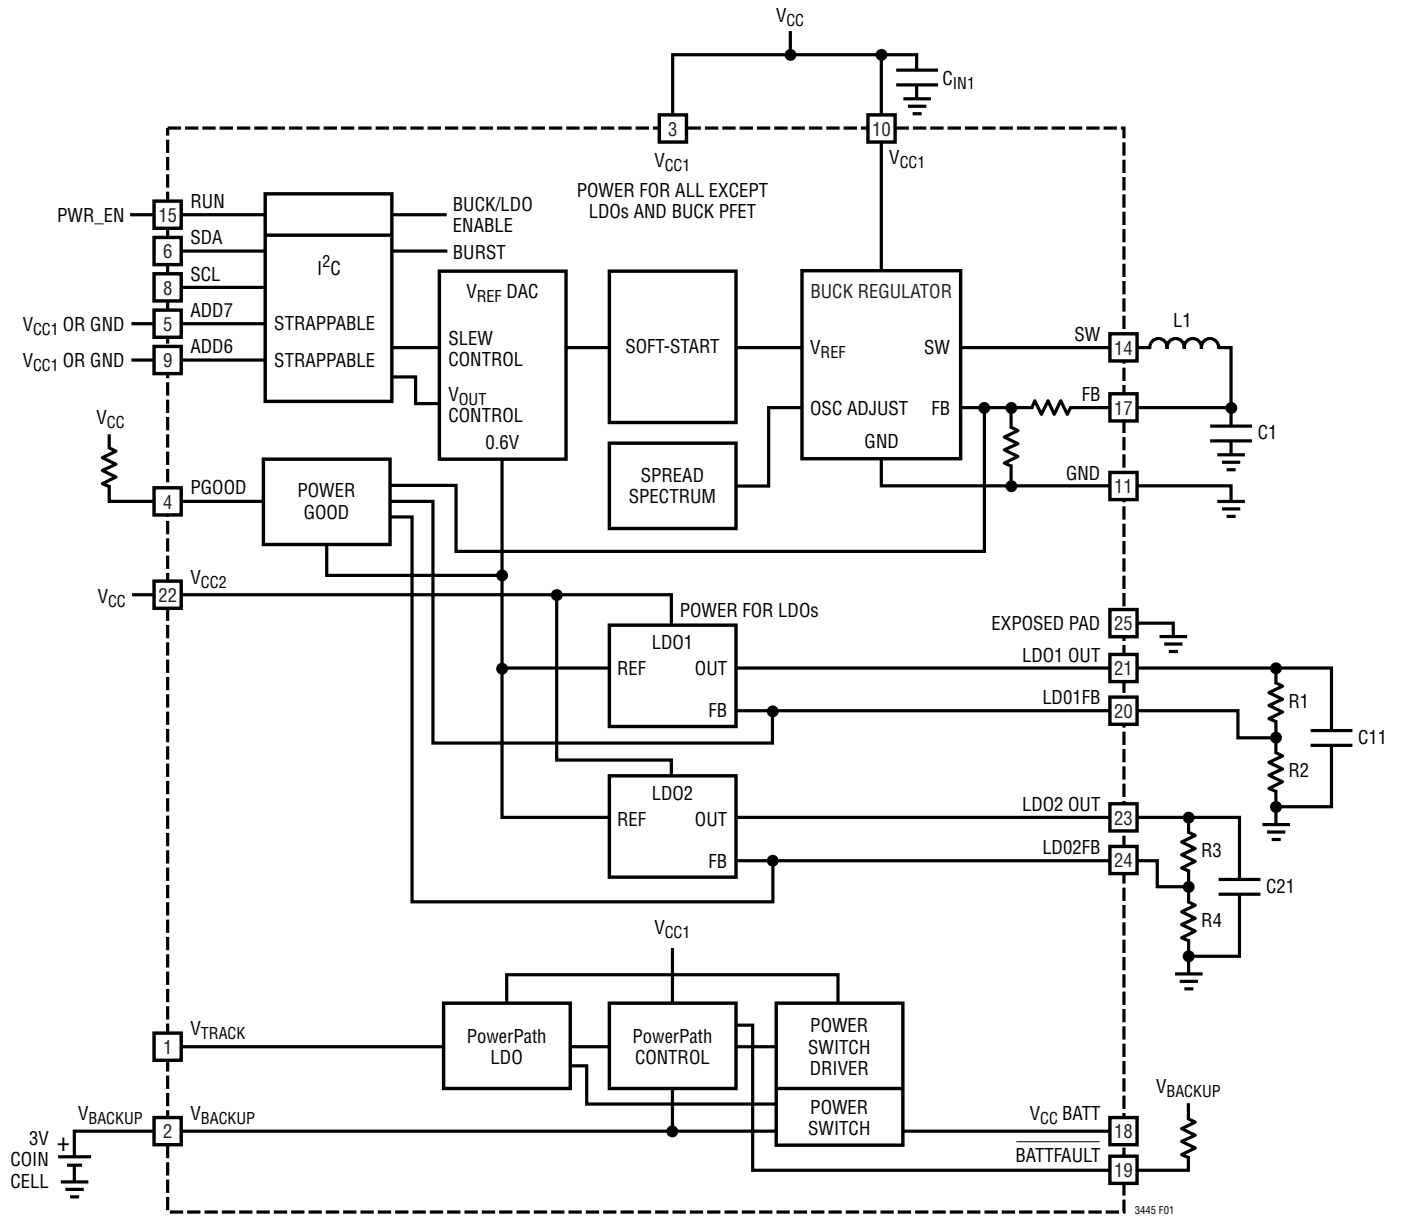

Figure 1
## OPERATION (refer to Figure 1)
The LTC3445 contains two 50mA LDOs with an output voltage range of 0.6V to ( $V_{CC2} - 0.3V$ ). The output voltage is set by the ratio of two external resistors as shown in Figure 1. Each LDO serves the output voltage (Pin LDOx) in order to maintain a feedback voltage (Pin LDOxFB) of
**OPERATION** (refer to Figure 1)